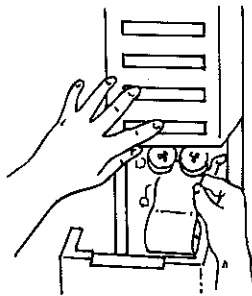

Figure 3.22 Feeding the paper into the mechanism.
8. Push up gently on the paper while pressing the PAPER ADVANCE touch pad until the mechanism begins to pull the paper (Fig. 3.22).